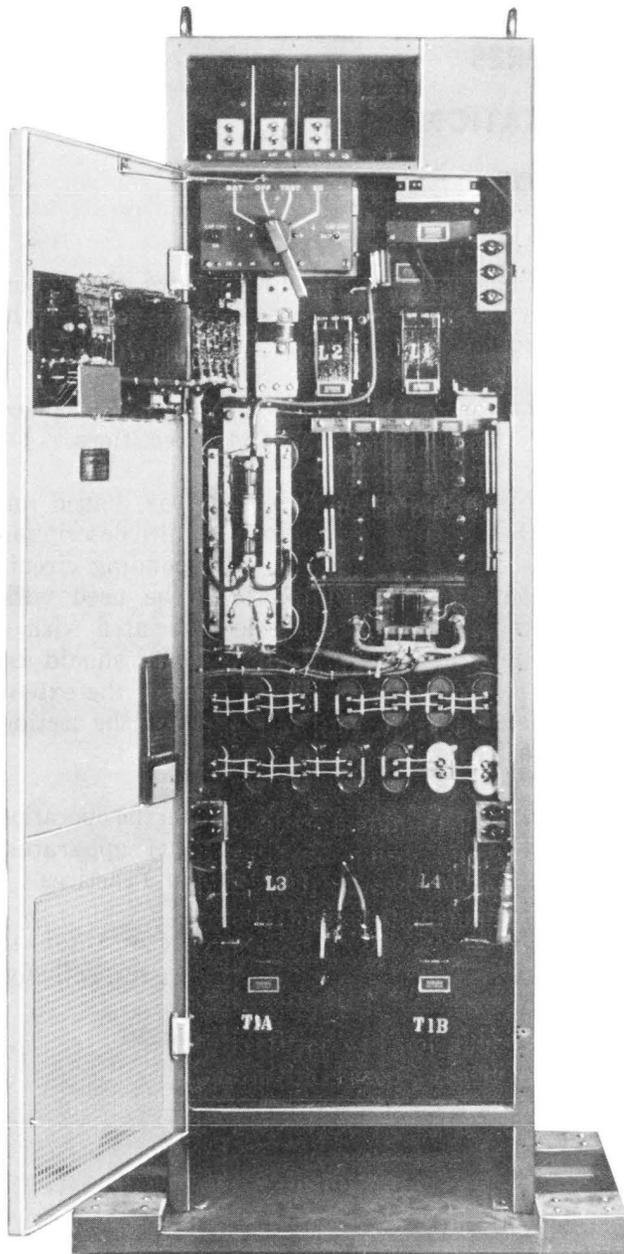

Fig. 1—KS-21520 Rectifier—Warren G-V Communications (Heat Deflector and Shield, Kickplate and Upper Panel Removed)
1.01 The KS-21520 rectifiers (Fig. 1) are rated at 48 volts at 400 amperes. They provide an isolated, filtered, constant negative dc voltage for automatically charging and floating 23 or 24 cells of lead acid battery. In addition, L11 and L12 rectifiers are equipped with end cell charging capacity allowing 25 or 27 cells to be floated or charged at voltages up to 2.3 volts per cell. The L11 and L12 rectifiers are primarily intended for use in the 301C, 302A, and 302B; while the L21 and L22 rectifiers are intended for use in the 303A, 326A, 326B, and 111A power plants. However, they may be used whenever the voltage, current capacities, and regulation characteristics meet the requirements with which they will be associated. These rectifiers are designed for continuous operation, and during normal operation are energized and connected to the load. The input power is 3-phase, 3-wire, 60 ±3 Hz ac within the limits of 184 to 254 volts for List 11 and List 21 or 425 to 508 volts for List 12 and List 22. The List 11 and List 21 rectifiers are provided with taps on the main transformers for 208/240 volt operation.